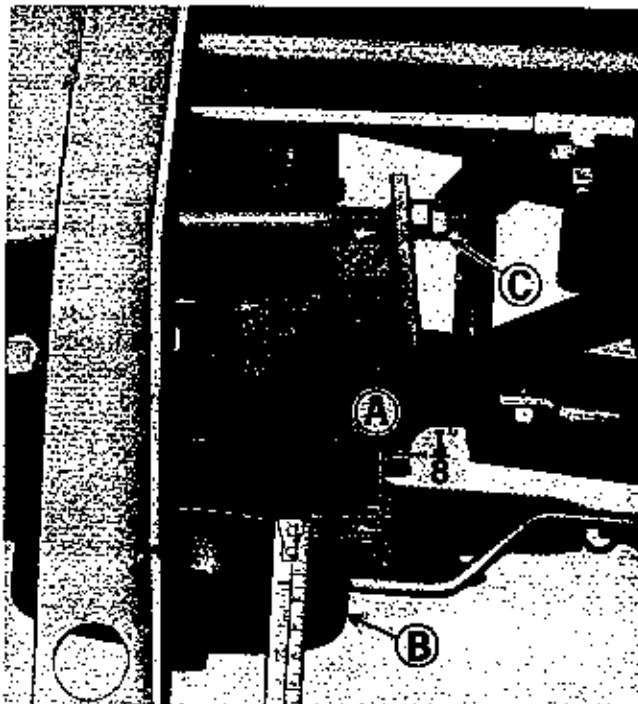

Figure 15. Power take off clutch.
See figure 15. The power take off clutch is properly adjusted when pulley (A) moves $1/8"$ when the power take off control lever is engaged and disengaged. If adjustment is required, proceed as follows: